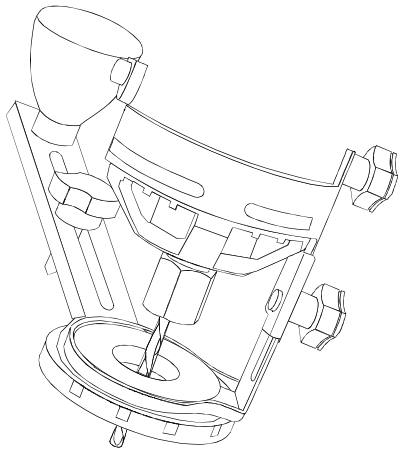

Fig. 13
4. Rest the edge of the sole plate on the workpiece with the bit at an angle of about  $45^{\circ}$  (see Fig. 13). Insert the circle cutter pivot point into the pilot hole drilled at the center of the circle.